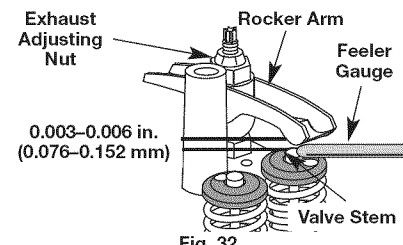

Fig. 32
- Slide the feeler gauge between the rocker arm and the valve return spring. Measure the clearance between the valve stem and rocker arm (Fig. 32). Measure both the intake and exhaust valves.
- Turn the adjusting nut using a 5/16 inch (8 mm) wrench or nut driver (Fig. 32).